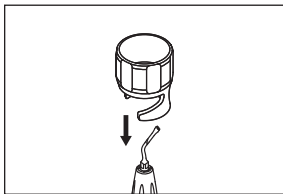

Fig. 2
- 2) Locate the tip wrench aligning with the square portion of the tip (Fig. 2).